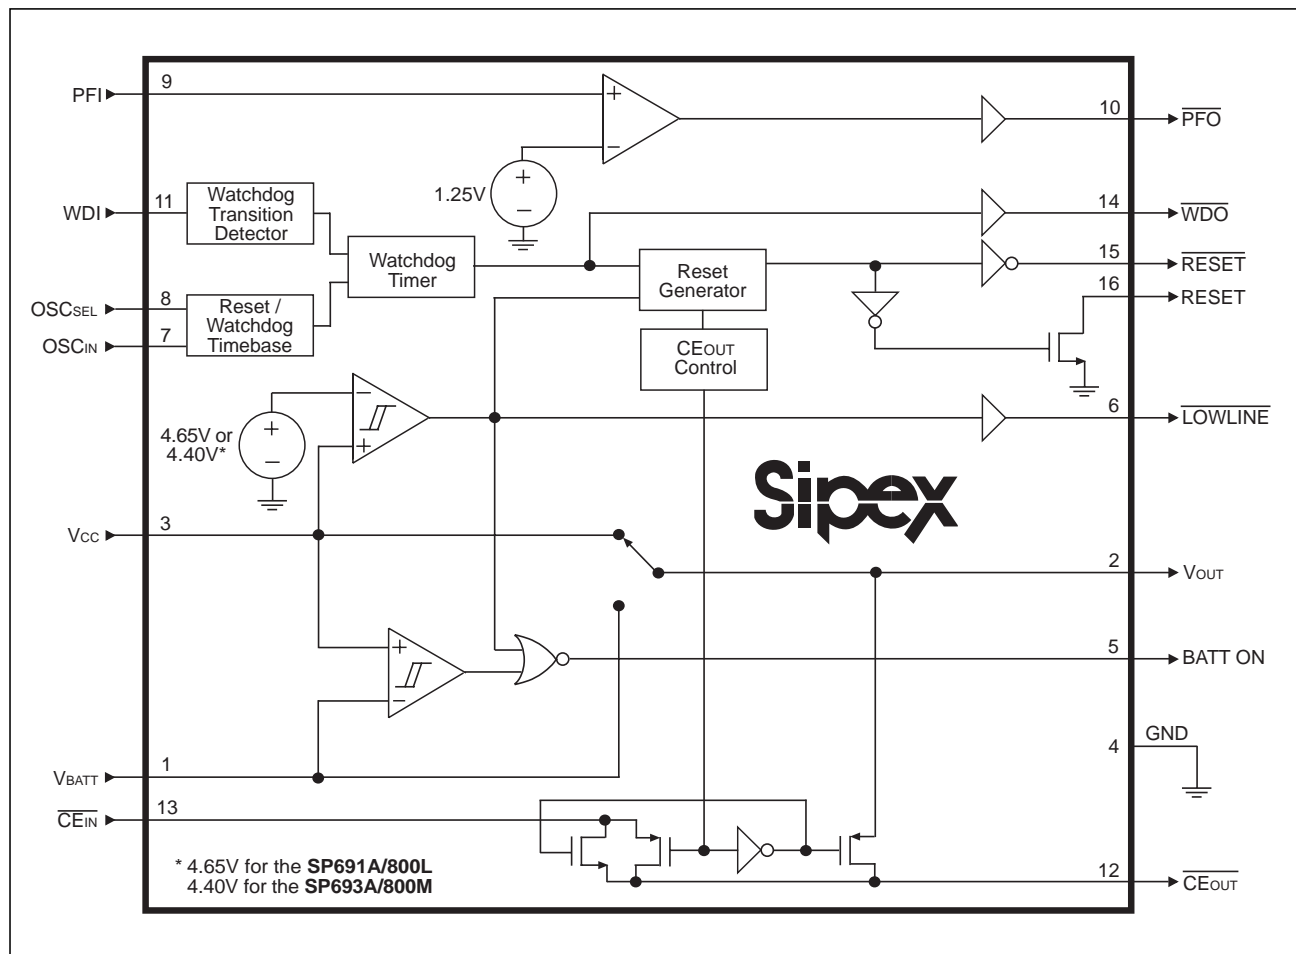

Figure 16. Internal Block Diagram of the SP691A/693A/800L/800M
The **SP691A/693A/800L/800M** devices provide internal gating of chip-enable (CE) signals, to prevent erroneous data from corrupting the CMOS RAM in the event of a power failure. During normal operation, the CE gate is enabled and passes all CE transitions. When reset is asserted, this path becomes disabled, preventing erroneous data from corrupting the CMOS RAM. The **SP691A/693A/800L/800M** devices use a series transmission gate from $\overline{\text{CE}}_{\text{IN}}$ to $\overline{\text{CE}}_{\text{OUT}}$. Refer to *Figure 16*.
$\overline{LOWLINE}$ is the buffered output pin of the reset threshold comparator. Refer to *Figure 16*. $\overline{LOWLINE}$ typically sinks 3.2mA at 0.1V. For normal operation where V_{CC} is above the reset threshold, $\overline{LOWLINE}$ is pulled to V_{OUT} .